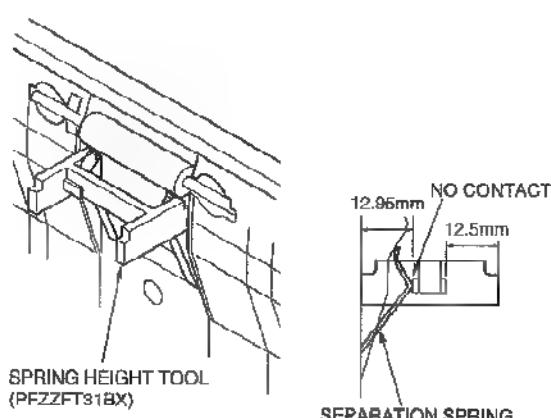

Fig. 2
3. Check the lowest level of the separation spring with the opposite side of the spring height tool. Please make sure that the separation spring touches the tool during this operation. (Both right and left) (See Fig. 2.)